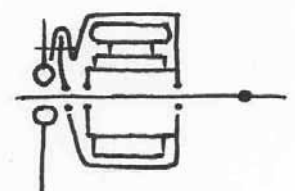

Figure 4
Metal grommets used to protect the hole in the fabric where the cord comes out prevent sewing the two ends of the longitudinal loop close enough to the hole and thus reduce the loop angle and the performance of the ribbon cage. An alternative cage configuration may be used in these cases where the two ends of the longitudinal loop are sewn together next to the eyelet (Figure 4). As shown in the test paper, this configuration releases as easily as the one shown in Figure 3 but requires piercing an additional hole in the longitudinal loop.
As mentioned above, a grommet will prevent sewing the ends of the longitudinal loop close enough to the hole. In this situation, the designs shown in Figures 4 and 5 are preferable.
If the grommet is not accessible from behind, the option shown in Figure 4 may be used. Sizing and construction instructions for this type of cordlock are the same as described in 2.3 and 2.5 except:
- 2) An additional hole must be burned in the longer side of the longitudinal loop as shown on Figure 4 to let the cord through